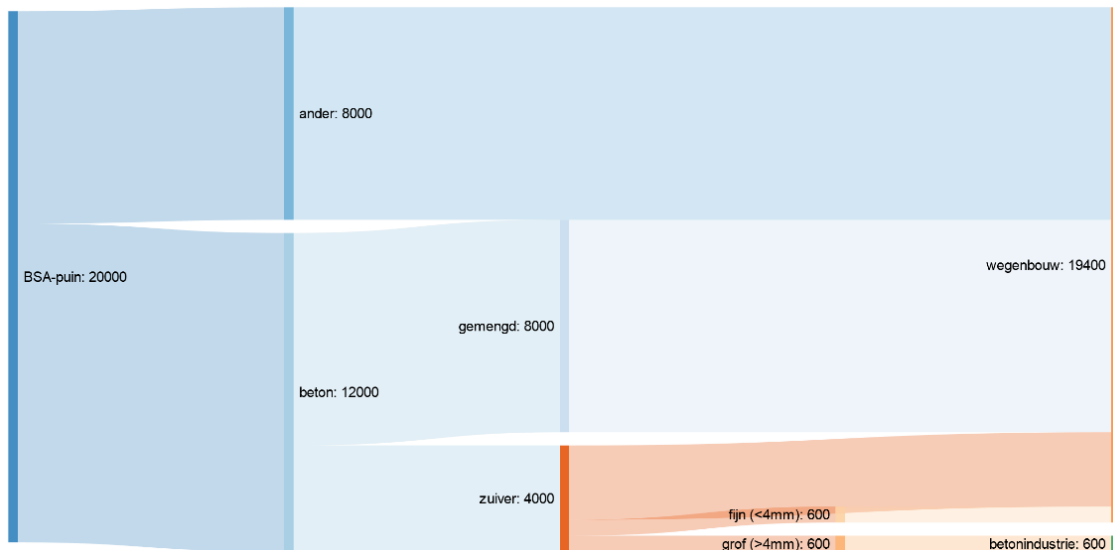

Figure 3. Current BA material flows in the Netherlands (2020). Most material ends up in low-value applications.
Figures 3 and 4 show the Sankey flow diagrams for building waste (BA) in the Netherlands for the 2020 market situation and the 2025 target respectively. The diagrams reveal three key structural insights. First, the dominant current destination for concrete demolition waste is low-grade applications such as road base and fill material - high-grade recycling, including as aggregate for structural concrete or as GPC precursor, represents a small fraction of total throughput. Second, the 2025 target - which identifies "slim breken" (smart crushing) and selective demolition as the main levers - envisioned a substantial shift toward higher-value material flows, including increased granulate quality for structural reuse. It should be noted that the 2025 target date has now passed; no updated flow data are available to assess whether the targets were met. Third, and critically, the gap between the 2020 baseline and the 2025 ambition cannot be closed by better processing technology alone. The root cause is demolition practice.